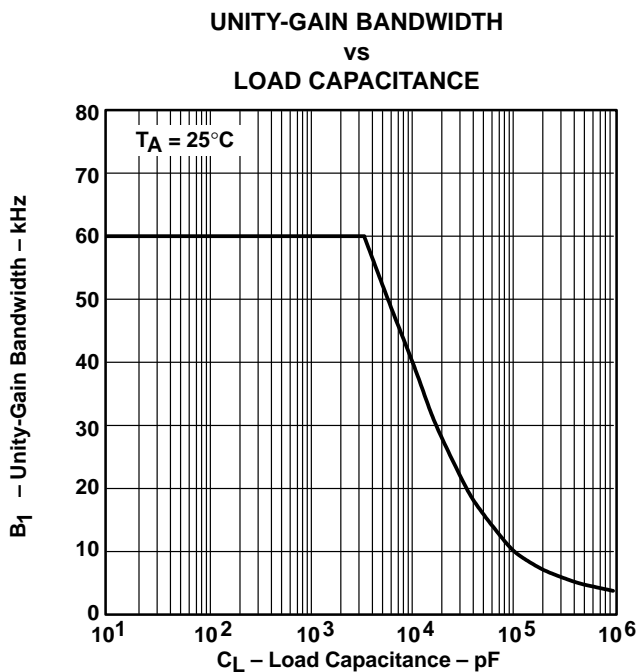

Figure 51
The unity-gain bandwidth (UGBW) frequency decreases as the capacitive load increases (see Figure 51). To use equation (1), UGBW must be approximated from Figure 51.